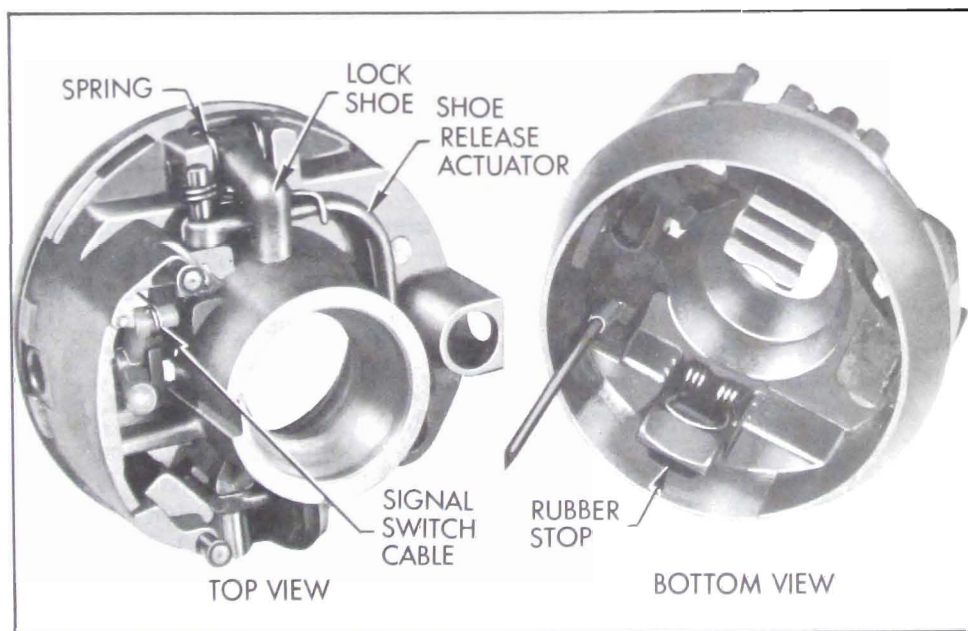

Figure 8-83—Actuator Assembly
4. If lock shoes were removed from actuator; install the springs on the upper end over lock shoes, then install the shoes in the actuator and retain with the pins. See Figure 8-83.